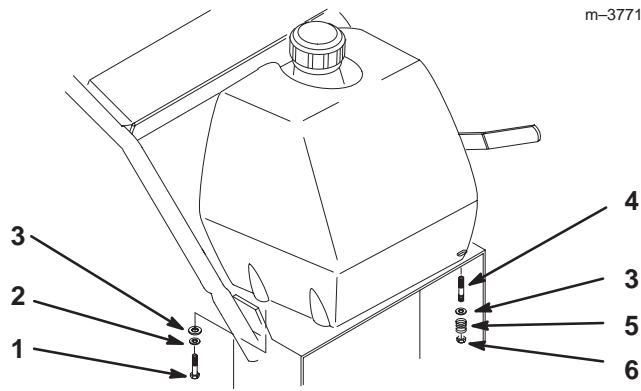

Figure 5
1. Align fuel tank with the top of the rear frame (Fig. 5).
2. Secure the right side of the fuel tank to the rear frame with 2 bolts (5/16 x 7/8 inch), lock washers (5/16 inch) and washers (5/16 inch) (Fig. 5).
3. Secure the left side of the fuel tank to the rear frame with 2 studs, washers (5/16 inch), springs and locknuts (5/16 inch) (Fig. 5).